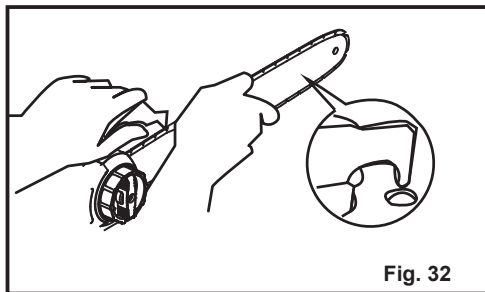

Fig. 32
- Clear residue from the rails on the guide bar using a screwdriver, putty knife, wire brush or other similar tool. This will keep the oil passages open to provide proper lubrication to the bar and chain (Fig. 32).